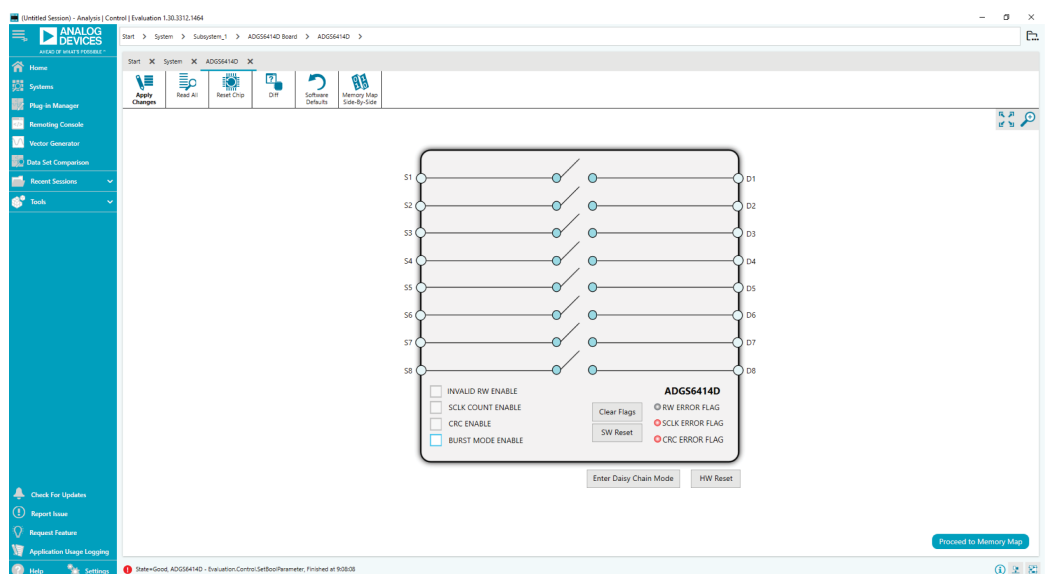

Figure 2. Chip View for the ADGS6414D
5. Double click the **ADGS6414D Board** evaluation board plugin to open the ADGS6414D chip view, as shown in Figure 2.